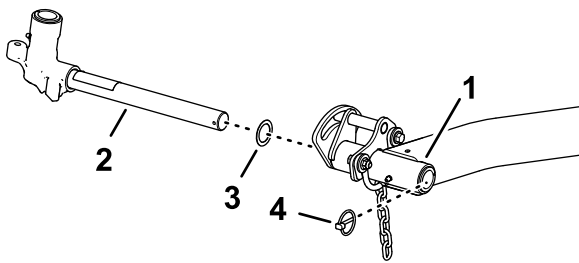

Figure 28
1. Remove the lynch pin and washer securing the lift-arm pivot shaft to the lift arm and slide the lift-arm pivot shaft out of the lift arm (Figure 28).